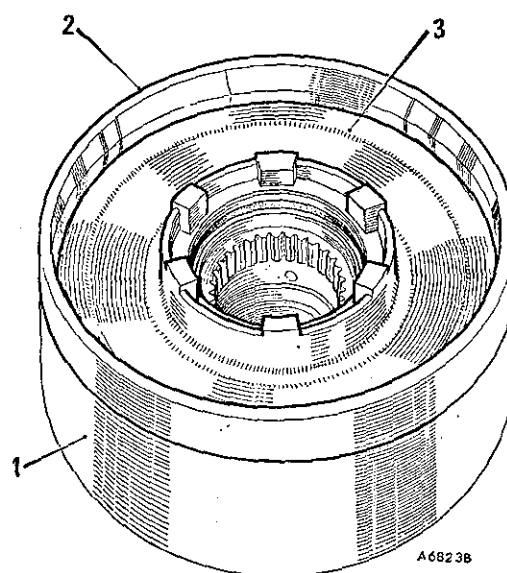

Fig. Fa.56
- (10) Refit the reverse gear booster piston with the boss facing outwards, using Service tool 18G 1103 (see Fig. Fa.56).